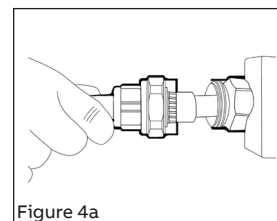

Figure 4a
- Mount hub in desired location. When the sealing compound is solidified (after approximately 1 hour), place encapsulated assembly into hub and secure in position by tightening union until it bottoms (metal to metal contact) (Figures 4a and 5a).